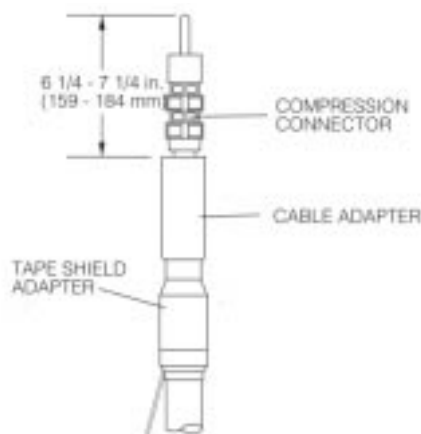

Figure 15.
- Check length from end of compression connector to top of cable adapter. Length should be between 6-1/4" and 7-1/4" (159 - 184 mm). (Refer to Figure 15.)